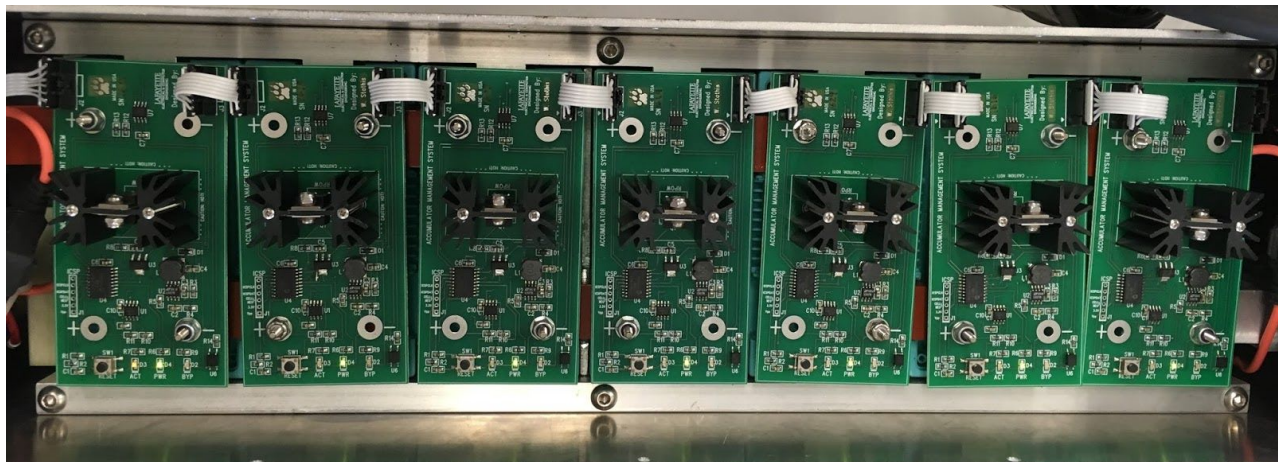

Figure 8. AMS Board installation in a pack.
- There are 2 connectors directly across from each other used for implementing the bus used in the I2C protocol between PacMAN and AMS boards. 5V, Gnd, SDA (data), and SCL (clock), are sent through these connectors. AMS boards are connected together as seen in Figure 8.